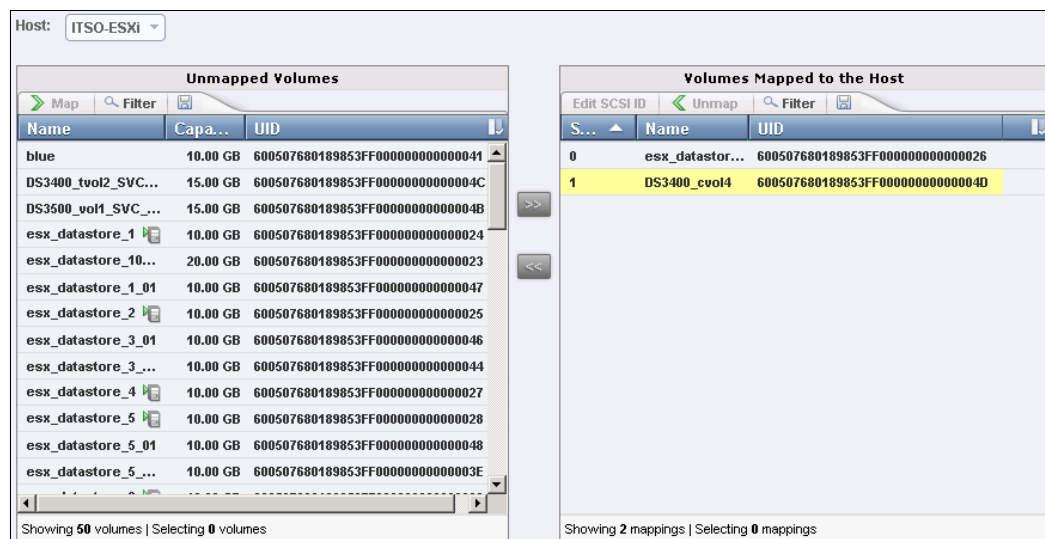

Figure 5-21 Modify mappings
2. The Modify Mappings window opens, and your host and the newly created volume are already selected. Click **OK** to map the volume to the host (Figure 5-21).